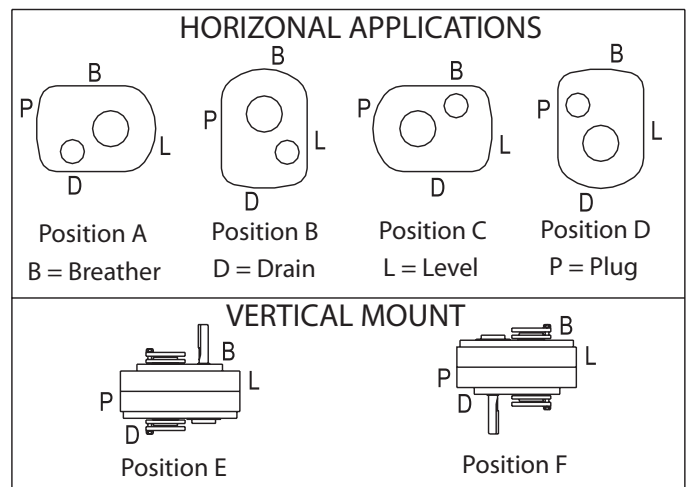

Figure 3 - Mounting Positions
- Determine the running positions of the reducer (see Figure 3). Note that the reducer is supplied with six plugs: four around the sides for horizontal installations and one on each face for vertical installations. These plugs must be arranged relative to the running positions as follows.
Vertical Installations - Install the filter/ventilation plug in the hole provided in the upper face of the reducer housing as installed. If space is restricted on the upper face, install the vent in the highest hole on the side of the reducer per Figure 3 using the optional vertical vent kit. Install a plug in the hole in the bottom face of the reducer. Do not use this hole for the magnetic drain plug. Install the magnetic drain plug in the lowest hole on the sides of the reducer. Of the remaining holes on the sides of the reducer, use the plug in the upper housing half for the minimum oil level plug.
The running position of the reducer in a horizontal application is not limited to the four positions shown in Figure 3. However, if running position is over 20° in position B and D or over 5° in position A and C—either way from sketches—the oil level plug cannot be used safely to check the oil level, unless the reducer is swung to within 20° for position A and C or to within 5° for position B and D of the positions shown in Figure 3. Because of the many possible positions of the reducer, it may be necessary or desirable to make special adaptations using the lubrication filling holes furnished along with other standard pipe fittings, stand pipes, and oil level gauges as required.
- Use lifting tab to hoist screw conveyor drive into position. Slide shaft into screw and adapter over trough end studs. Only one set of adapter holes will fit over the trough end studs. If the mounted position of the screw conveyor drive varies more than 15 degrees from any of the four horizontal mounting positions shown in Figure 3, an incorrect set of holes has been selected for coupling adapter to reducer. This can be corrected by removing adapter screws and rotating the reducer to its proper position. Reinstall and tighten adapter screws to torque specified in Table 5. Install lockwashers and tighten nuts on trough end studs. Attach drive shaft to screw.
- ① Oil quantity is approximate. Service with lubricant until oil runs out of oil level hole.
- ② Refer to Figure 3 for mounting positions.
- ③ US measure: 1 quart = 32 fluid ounces = .94646 liters.
- ④ Conversion from quarts rounded values.
- ⑤ Below 15 RPM output speed, oil level must be adjusted to reach the highest oil level plug. If reducer position is to vary from those shown in Figure 3, either more or less oil may be required. Consult Dodge.